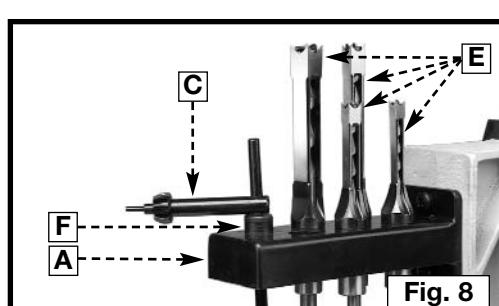

Fig. 8
2. Fig. 8 illustrates the stored chuck key/wrench (C), bushing (F) for use with extra long chisels, and chisels and bits (E).